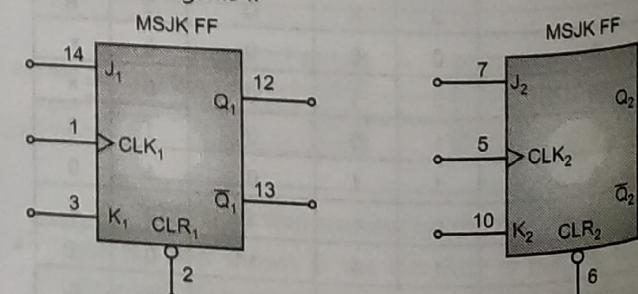

Fig. 3.34
- The logic symbol of the two flip-flops with pin numbers is shown in Fig. 3.34.